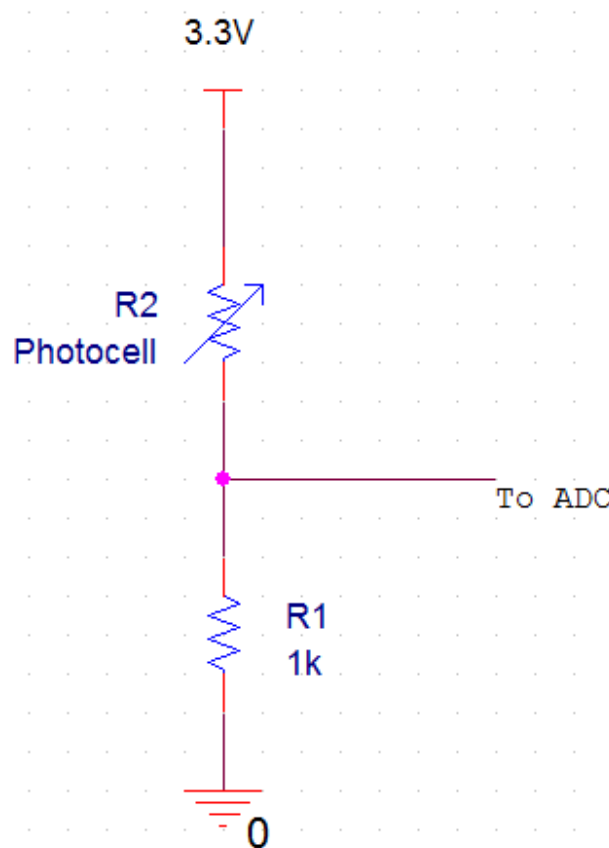

Figure 5.2: Photocell Circuit
7. In a 'for' loop print out decimal and hexadecimal representations of register ADC1_RA. The data result register (RA) contains the result of the ADC conversion of Channel 1 for this specific case.
8. On the breadboard create the simple circuit shown in Figure 5.2. Both power and ground can be provided from the K64 **in this case**.